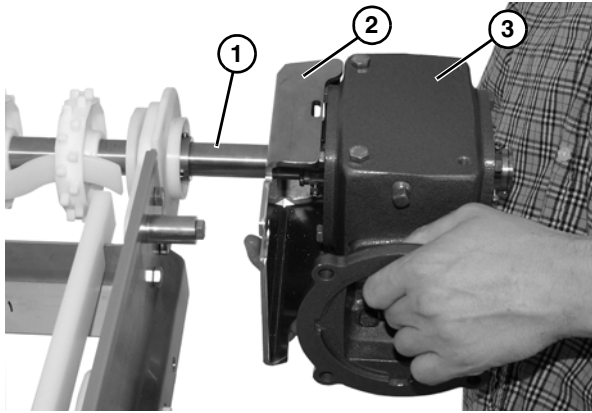

Figure 14
5. Remove gear reducer assembly from conveyor shaft (**Figure 14, item 1**), making sure to not lose key on conveyor shaft.
6. Remove screws and mounting bracket (**Figure 14, item 2**) from gear reducer (**Figure 14, item 3**).